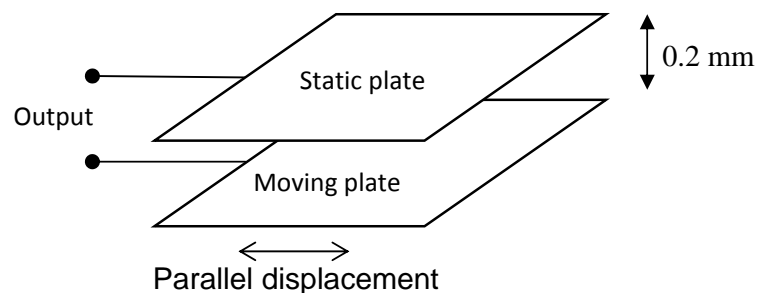

Figure Q3[a]
- Q3. [a] A configuration of a capacitive sensor to detect displacement in a parallel direction is shown in Figure Q3[a]. The sensor consists of two parallel 12-mm-square plates separated by a distance of 0.2 mm. Given that the permittivity of free space is 8.85 pF/m and the dielectric constant of medium between plates is 1,